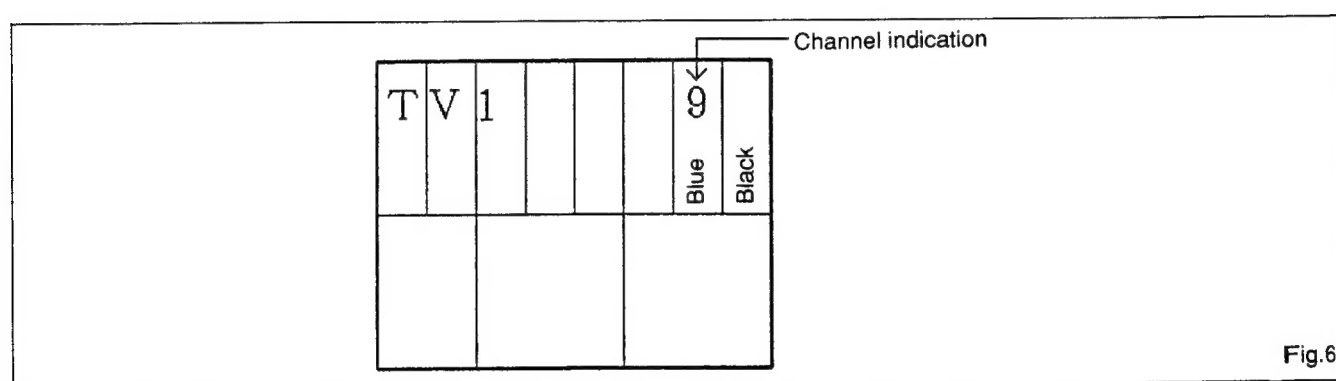

Fig. 6
- (2) TV SG setting
- (3) Adjust the TC 501 so that receive channel is indicated in the center of blue bar in the split color bar as shown in Fig. 6.